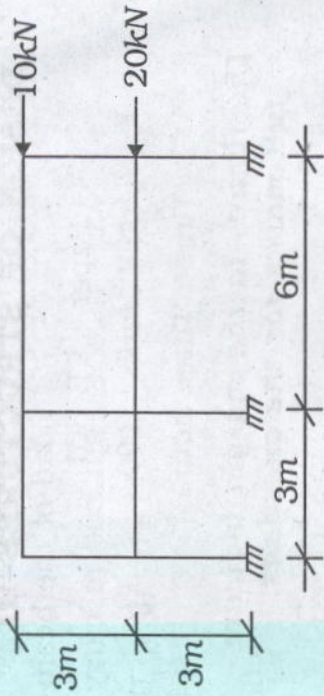

Fig. 2
2. (a) Analyze the frame shown in Fig. 2 by Portal method. And draw the axial force diagram, bending moment diagram and shear force diagram. 18